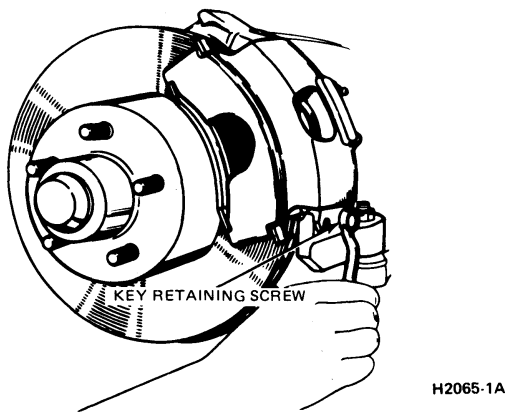

FIG. 16 Removing Key Retaining Screw
4. Remove the key retaining screw (Fig. 16).
3. Remove the key retaining screw, (Fig. 16).
4. Secure the key to the support with the key retaining screw, (Fig. 16). Tighten the screw to 17-27 N·m (12-20 ft-lbs).